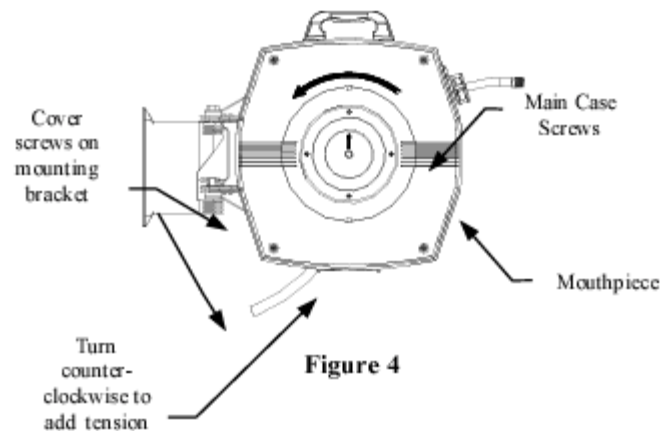

Figure 4
9. Remove the retaining screw in the swivel assembly and slide the assembly off the nylon axle. (Fig. 4)